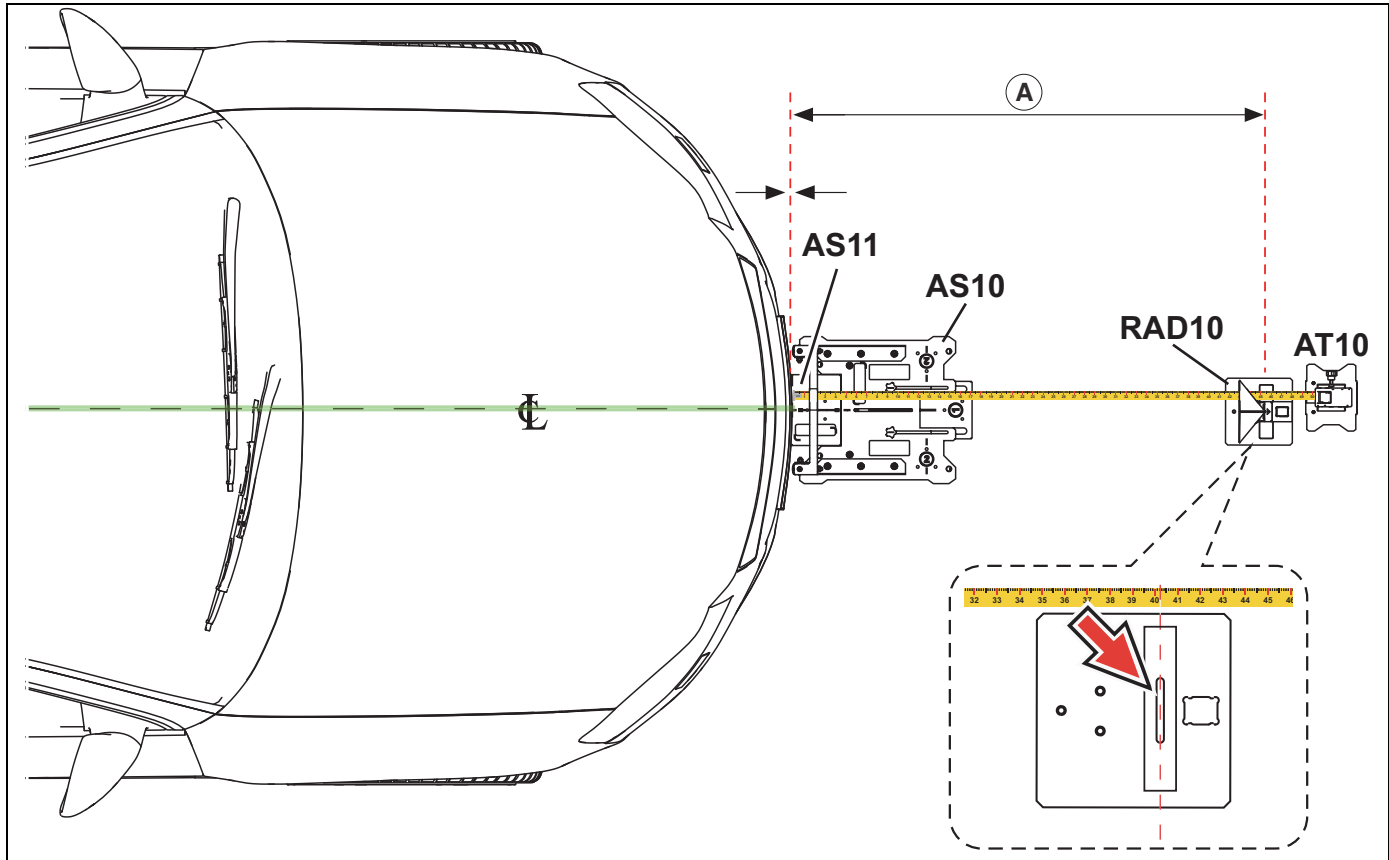

Figure 6-5
8. Measure and set the target distance "A", from the slot in the AS11 alignment plate to the slot on the top of the RAD10 radar stand base, using the AT10 tape rule stand Figure 6-5.